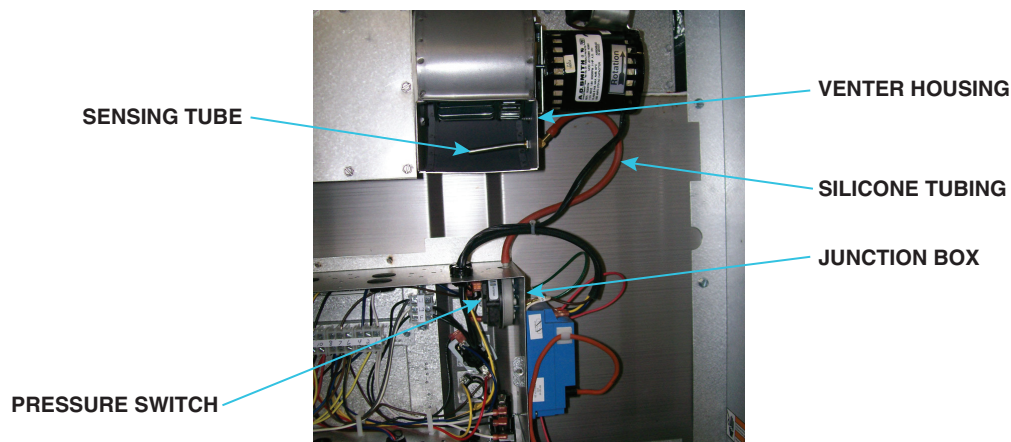

Figure 2. Replacement Pressure Switch Location
4. Install replacement sensing tube (6):
- a. Locate hole where original sensing tube (RP models) was located or where sail switch (RPV models) was located and position replacement sensing tube (6) inside venter housing with end sloped downward (see Figure 2).
- b. Secure sensing tube (6) to venter housing using brass locknut (4) outside of housing and hex panel nut (5) inside of housing.
- a. Position switch (2) inside junction box (see Figure 2) with tubing barb on top.
- b. Using switch (2) as template, mark and carefully drill 3/8-inch (minimum) hole in top of junction box.
- c. With pressure switch (2) tubing barb through hole in top of junction box, secure switch to junction box using two sheet metal screws (3).
6. Connect sensing tube (6) to pressure switch (2) using silicone tubing (7). Ensure that both connections are secure.
7. Connect replacement wiring assembly (1) as follows:
- a. For RP models, connect existing wires in junction box to replacement pressure switch (2) or disconnect existing wiring in junction box and make identical connections to wire assembly (1).
- b. For RPV models, disconnect and discard sail switch wiring and make identical connections to wire assembly (1).
8. Connect wires from junction box to pressure switch (2) as follows: red wire to normally closed (NC) terminal, black wire to normally open (NO) terminal, white wire to common (C) terminal.